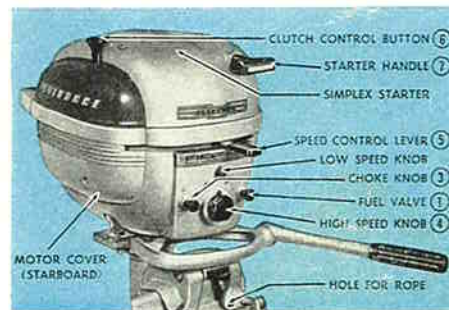

Fig. 3
CAUTION: It is "good insurance" to tie motor to boat with stout rope so that if motor becomes loose accidentally, rope will prevent loss overboard. Rope should be fastened to hole in stern bracket. (Fig. 3).
1. Open fuel valve by turning Fuel Valve Knob located on port side of control panel (Fig. 3) counter-clockwise as far as possible.
3. Pull out Choke Knob located at starboard side of control panel (Fig. 3) all the way.
4. Turn High Speed Knob (large knob in center of control panel) (Fig. 3) to "RICH" position.
5. Set Speed Control Lever (Fig. 3) to "START NEUTRAL" position.
Button located at starboard side of motor on top of starter housing. (Fig. 3). This sets clutch to "NEUTRAL" position.
- After motor starts push in Choke Knob (Fig. 3) and push Clutch Control Button down. (Fig. 3) This engages clutch.
by indicator on control panel and slowly adjust High Speed Knob (Fig. 3) until motor runs smoothly.
- To control speed move Speed Control Lever (Fig. 3) in directions
TO "START IN GEAR" NOTE: Clutch Control Button (Fig. 3) must be down before Speed Control Lever can be placed to "START IN GEAR"; otherwise above instructions apply.
STARTING WARM MOTOR Do not disturb High Speed Knob (Fig. 3) otherwise above instructions apply.
REVERSE The Fleetwin motor permits full 360° steering. Reversing is accomplished by turning motor one-half turn. It is advisable to slow the motor down to "START NEUTRAL" position before attempting to swing motor into reverse. The clutch may also be disengaged by pulling up on Clutch Control Button (Fig. 3) if so desired. A special lock arrangement built into the drive housing locks the motor against tilting while reversing. Use extra care while running in reverse, so as not to strike any obstruction, thus avoiding possible damage to lower unit parts, as tilting feature functions only in "FORWARD" position.
NEUTRAL CLUTCH: The purpose of the "NEUTRAL CLUTCH" is to dis-engage the motor power from the propeller, which is done by pulling up on the Clutch Control Button. (Fig. 3) This permits easier and safer starting of motor and aids in the maneuverability of the boat in confined or crowded places. Engagement is accomplished by pressing the CLUTCH CONTROL BUTTON down. This shifting of clutch can be done only with the speed control lever at "START NEUTRAL" or slower positions.